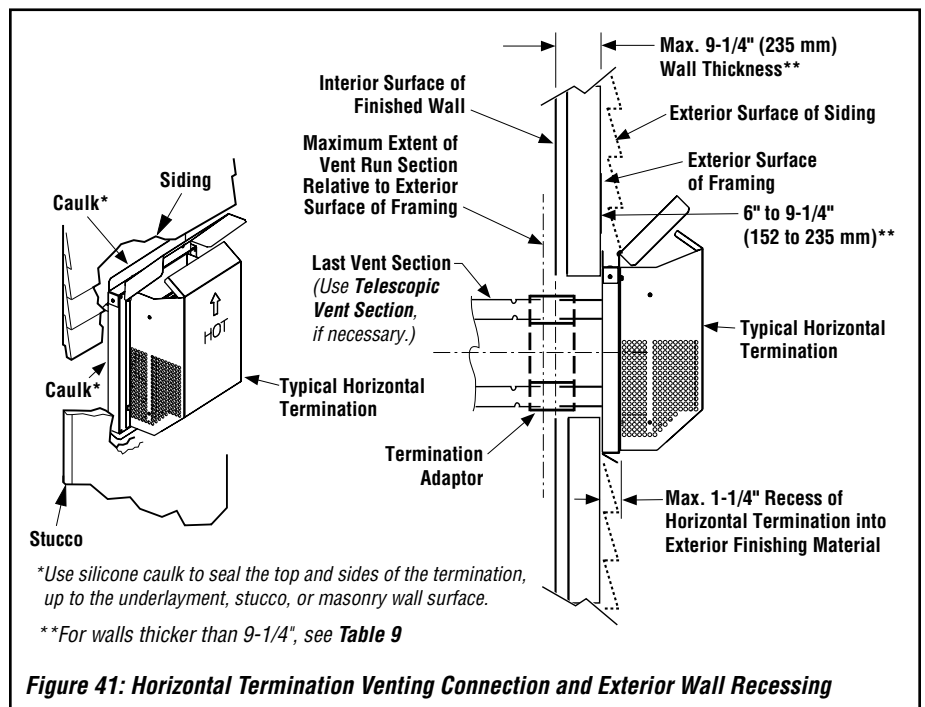

Figure 41: Horizontal Termination Venting Connection and Exterior Wall Recessing
Note: For walls thicker than those shown in **Figure 41**, see **Table 9**, which lists additional venting components needed (in addition to the termination and adaptor) for a particular range of wall thicknesses.
See **Figure 41**. Attach the **termination adaptor** (provided with the termination) to the vent section (or telescoping vent section or elbow) in the same manner as the other vent components (see "Attaching Secure Vent® Components" on **Page 13**).
b) Orient the termination housing with the arrow pointing UP (see **Figure 41**).
NOTE: The horizontal termination must not be recessed into the exterior wall or siding by more than 1-1/4\" (32 mm), as shown in **Figure 41**.